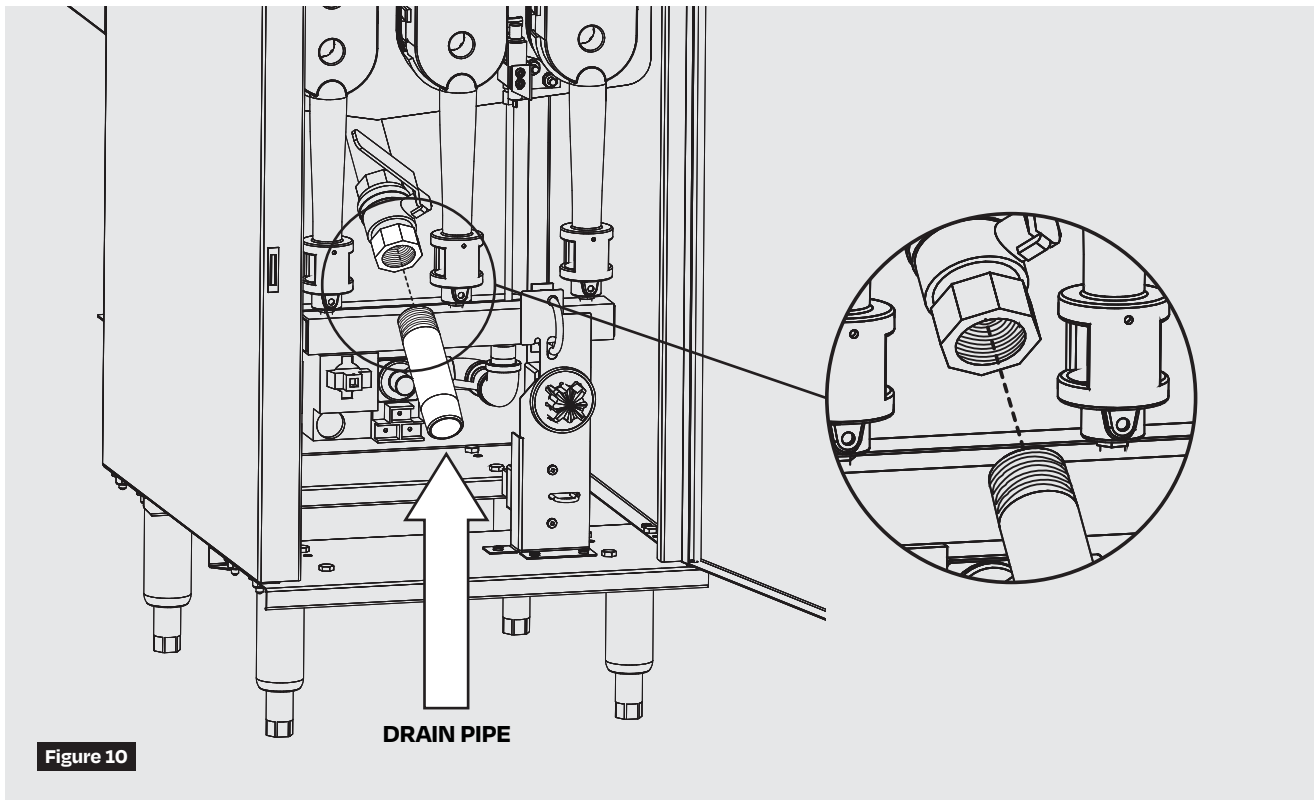

Figure 10
2. Attach the 1" drain pipe to the ball valve located behind the door. **(Figure 10)**
2. Attach the 1" drain pipe to the ball valve behind the door. **(Figure 10)**